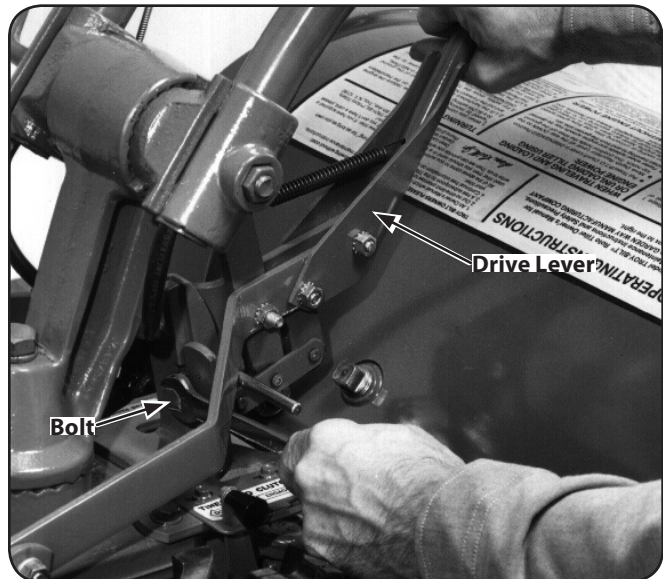

Figure 6-17
5. Use one hand to hold the drive lever in FORWARD while using a $\frac{1}{16}$ " wrench to loosen — don't remove — the bolt at the back of the belt adjustment block. See Figure 6-17. The adjustment block should be free to move either up or down.